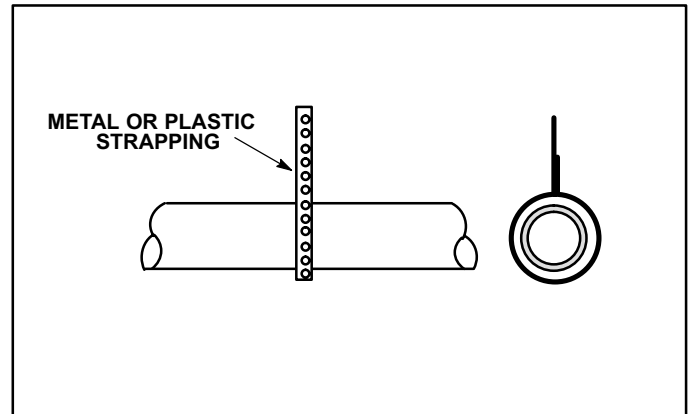
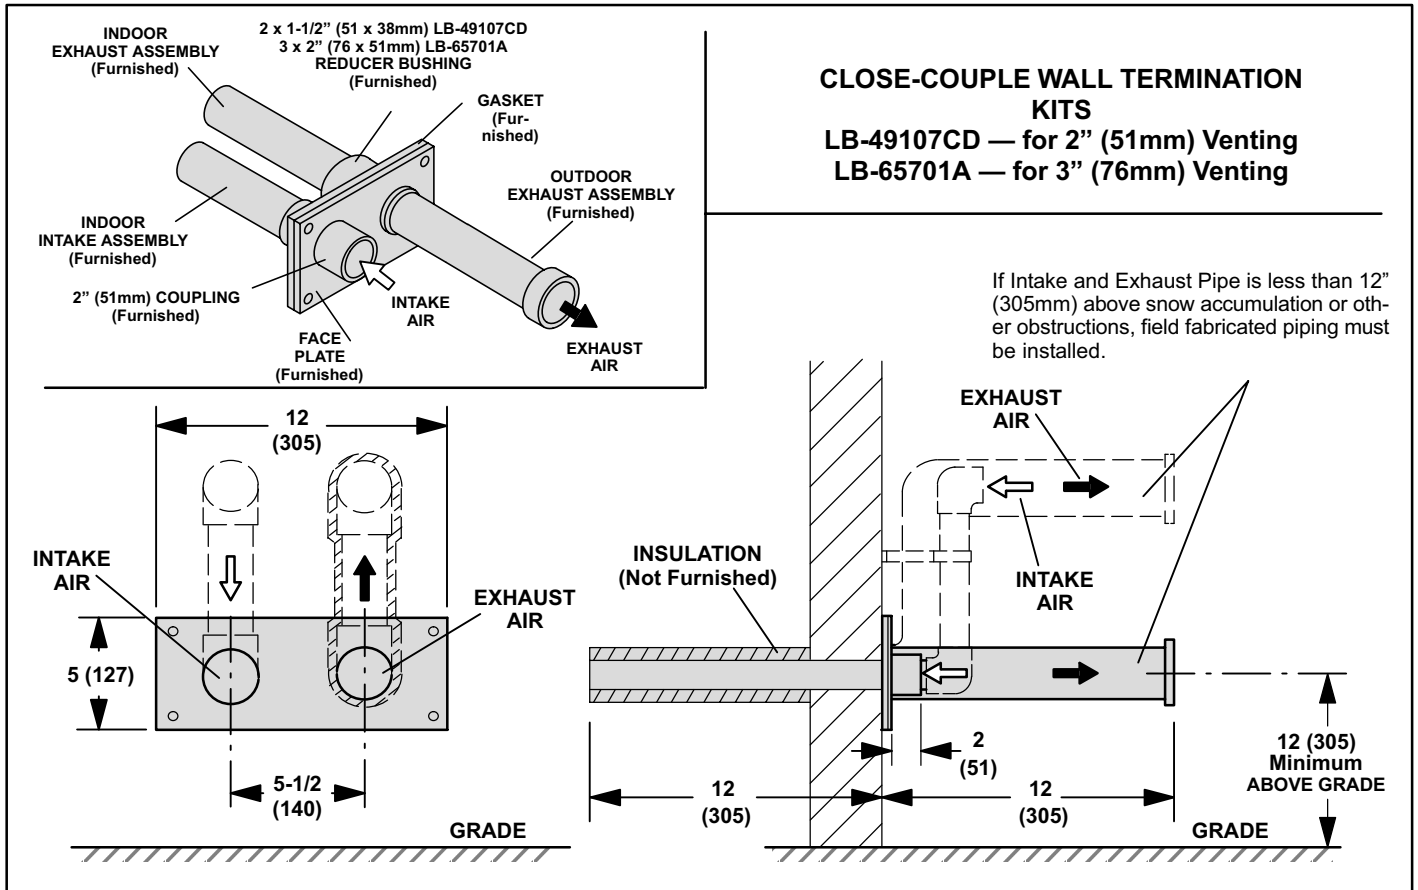

FIGURE 28
FIGURE 32
- 8 - If intake and exhaust piping must be run up a side wall to position above snow accumulation or other obstructions, refer to figure 32 for proper piping method. Piping must be supported every 3 ft. (.91m) as shown in figure 28 and must be insulated. When exhaust and intake piping must run up an outside wall, the exhaust piping is reduced accordingly after the final elbow.
- 10- Suspend piping using hangers at a minimum of every 5 feet (1.52m) for schedule 40 PVC and every 3 feet (.91m) for ABS-DWV, PVC-DWV, SDR-21 PVC, and SDR-26 PVC piping. A suitable hanger can be fabricated by using metal or plastic strapping or a large wire tie. See figure 28.